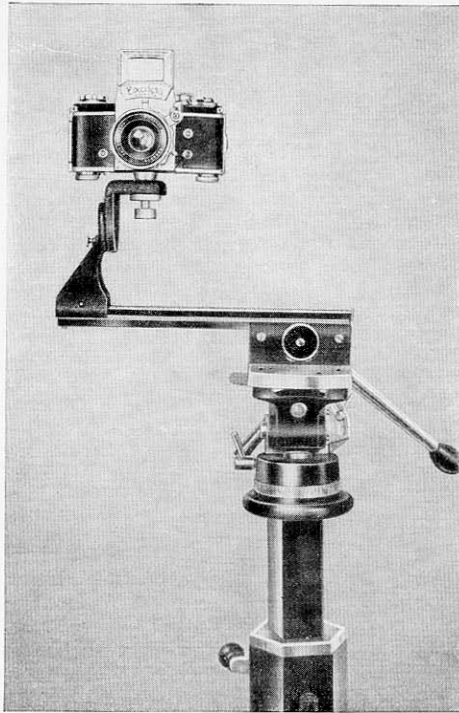

Fig. 32
In stereo — 3 dimensional — photography you are not absolutely bound to make both exposures simultaneously, using two lenses or two prisms (Stereo Attachments). The two stereoscopic pictures can be taken in succession. The camera, in this case, has two different standpoints, and the distance between these two points is called the "base". The object must, of course, be motionless. The stereoscopic effect is considerably enhanced by "wide-base" exposures, in which the distance between the two pictures is not the usual 6.5 cm., as derived from the distance between the eyes, but where a greater lateral movement of the camera is possible. The swing angle attachment connected to a sturdy tripod, permits making stereo exposures with a base of almost 50 cm. The focusing slide (6) is fixed to the tripod at a right angle to the viewing line (Fig. 32 and 33). While pulling the knob (8/5), turn the angular piece (8/2) upwards, bringing the plate with the hole for the fastening screw to the top, ready to
Figs. 32/33 (next page): Swing angle attachment fixed to tripod: horizontal arrangement for stereo exposures. Left: camera on extreme left of wide-base, right: camera on extreme right of wide-base